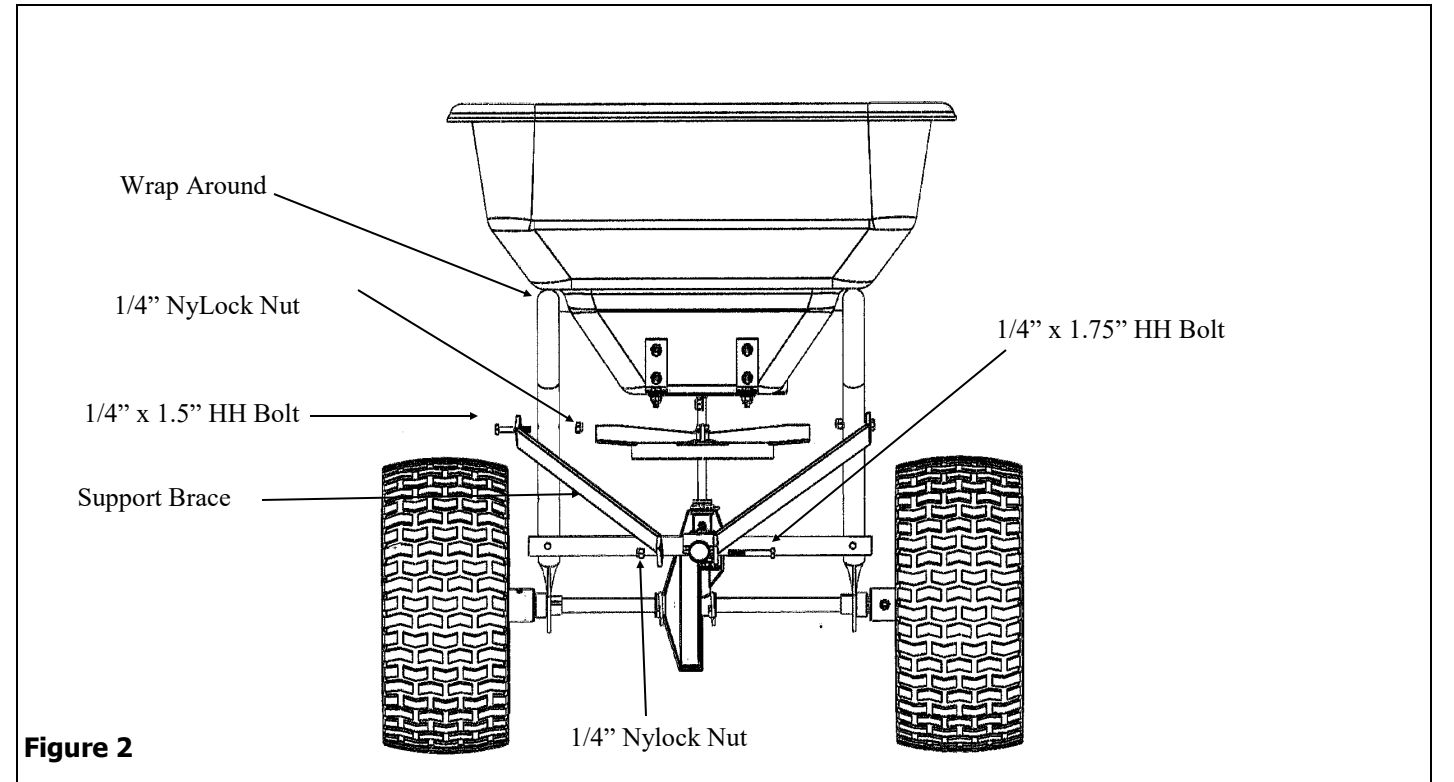

Figure 2
2. Attach the two Support Brackets to the Wrap Around Support using 1/4" x 1-1/2" Hex Head Bolts and 1/4" Lock Nuts. Attach the other end of the two Support Brackets to the Tow Bar using a 1/4" x 1.75" Hex Head Bolt and 1/4" Nylock Nut. See Figure 2.